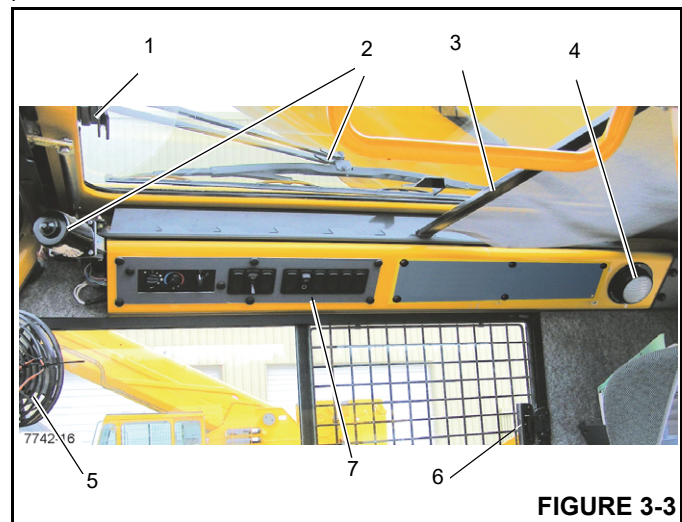
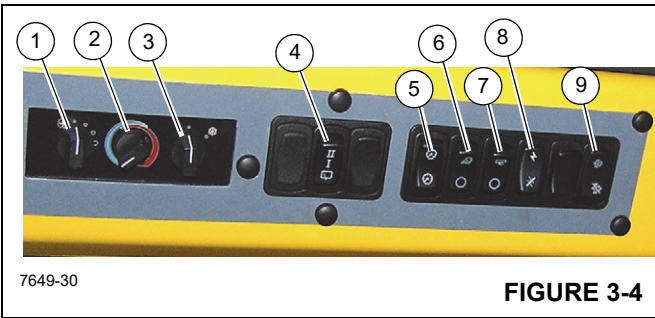

FIGURE 3-3
Figure 3-4 Item Numbers
The Skylight Window Latch (1) (Figure 3-3) is at the front of the window. Squeeze the latch and slide the window to the rear to open. To close slide the window forward until the latch engages.
The Skylight Wiper (2) (Figure 3-3) is controlled by the Skylight Wiper Switch, (4) (Figure 3-4), and operated by the Wiper Motor.
The Skylight Sunscreen (3, Figure 3-3) is used to diminish direct sunlight. The sunscreen is self retracting and can be set to screen all the light or adjusted rearward by moving it into the notches provided.
The cab Dome Light (4, Figure 3-3) is on the right rear corner of the cab overhead console and provides illumination in the cab. The dome light is controlled by a switch on the light.
The Cab Circulating Fan (5, Figure 3-3) is located on the right front side of the cab, above the window frame. A swivel allows the fan to be rotated and a switch on the fan base controls the fan. The switch has a high, low and off position.
The window on the right side of the cab can be opened. Squeeze latch (6, Figure 3-3) to release the window and slide forward. To close slide the window rearward until the latch engages.
The Heater/Air Conditioner Fan Switch (1) (Figure 3-4) controls the cab fan's speed. Fan speed controls the volume of heated air output (or cooled air output) of the fan. Settings are off, low speed, medium speed, and high speed.
The Heater Control Switch (2) (Figure 3-4) controls intensity of heating temperature. Turn the switch to the right (clockwise) to open the valve for heat. (Heat comes from heated fluid going through the heater coil.) Turn the switch to the left (counterclockwise) to close the valve to stop fluid flow and minimize heat.
The Air Conditioning Switch (3) (Figure 3-4) controls the operation of the optional air conditioning system. Settings are off (O) and on (I).
The electrically-operated Skylight Wiper is installed to remove moisture from the skylight. The Skylight Wiper is controlled by the Skylight Wiper Switch (4) (Figure 3-4). This is a 3 position switch OFF/LOW speed/HIGH speed.
The Panel Dimmer Switch (5) (Figure 3-4) controls the lighting for the overhead heater/air conditioning controls and the Transmission Oil Temperature Gauge.(7) (Figure 3-3), push the switch to increase or decrease the panel lighting.
The Work Lights Switch (6) (Figure 3-4) controls the crane's work lights mounted on the bottom front of the superstructure cab. Press the top of the switch to turn on the work lights. Press the bottom of the switch to turn off the work lights.
The Boom Lights Switch (7) (Figure 3-4) is located on the side overhead panel. This two-position rocker switch (ON/
The Crane Function Power Switch (8) (Figure 3-4) is located on the side overhead panel. This two-position (ON/OFF) rocker switch permits the operator to disconnect power from the crane functions controlled by the hydraulic remote controllers on the armrests. Positioning the switch to OFF prevents inadvertent operation of functions due to bumping the controllers while roading or any other operation. With the switch in the OFF position, all crane functions are prevented.
The Engine Exhaust System Cleaning Switch (9) (Figure 3-4) is located on the right side of the overhead control panel. This switch is a three position switch, Inhibit Cleaning/Permit Cleaning/Start Cleaning. Press this switch to start engine system cleaning or to disable exhaust system cleaning: